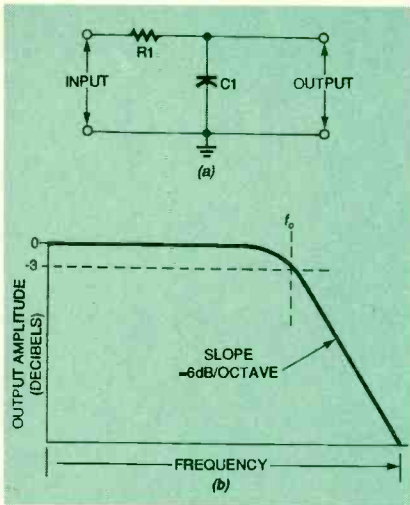
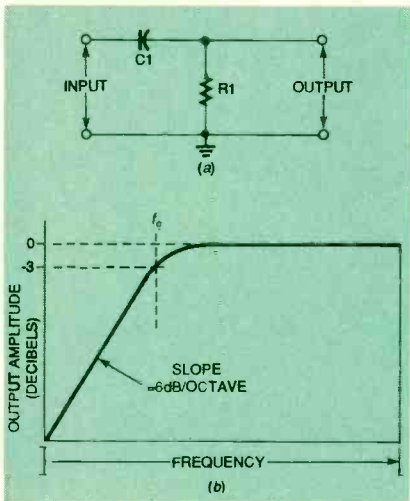

FIG. 1—RESISTOR-INPUT, FIRST-order RC filter (a) and response curve (b).
FIG. 2—CAPACITOR-INPUT, FIRST-order RC filter (a) and response curve (b)
The milliohm adapter circuit, shown in Fig. 1, is powered from a 9-volt battery. A resistor to be tested (R_x) is connected across banana jacks J1 and J2, and a pair of banana plugs, connected directly to J1 and J2, plugs into the voltage input jacks of a DMM.
FIG. 1—MILLIOHM ADAPTER CIRCUIT. A resistor to be tested (R_x) is connected across banana jacks J1 and J2, and a pair of banana plugs, connected directly to J1 and J2, plugs into the voltage input jacks of a DMM.
Figure 1-a is the schematic for a simple L-section resistor-input filter in which capacitor C1 acts like an open circuit to low frequencies and a short circuit to high frequencies. As a result, this filter, called a *low-pass* filter, passes low-frequency signals, but rejects (severely attenuates) high-frequency signals. The output of this filter falls 3 decibels (dB) at a *cutoff* frequency (f_c) where:
As shown in Fig. 1-b, frequency rolls off at a rate of 6 dB/octave (20 dB/decade) as the frequency is increased beyond cutoff. Consequently, a 1-kHz, low-pass filter attenuates a 4-kHz input signal about 12 dB, and a 10-kHz signal about 20 dB.
A second simple, passive RC filter is shown in Fig. 2-a. It is a capacitor-input, L-section filter. Here the capacitor also acts like an open circuit to low frequencies and a short circuit at high
The output of this high-pass filter is 3 dB down at a cutoff frequency, as determined by the formula (1) applied for the low-pass filter of Fig. 1-a. As shown in Fig. 2-b, it rolls off at a 6 dB/octave rate as the frequency is